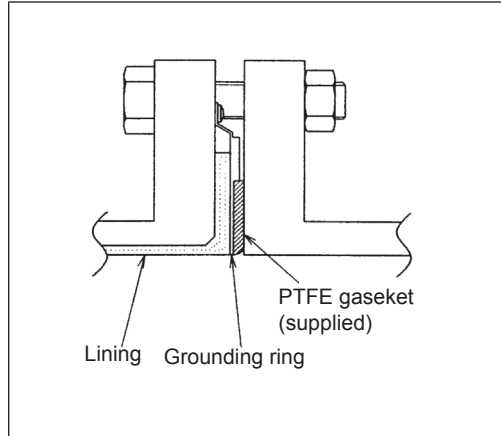

Fig. 2-24. Installation using grounding ring made of Non-SUS material
- Install the detector as shown in Fig. 2-24. See Table. 2-5 on page 2-24 for the appropriate fastening torque.